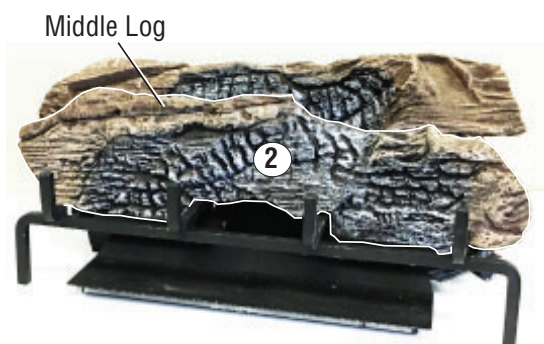

Figure 57 - Installing Log #2
2. Place the middle log (#2) in front of "U"-burner and against the edges of plate as shown in **Figure 57**.